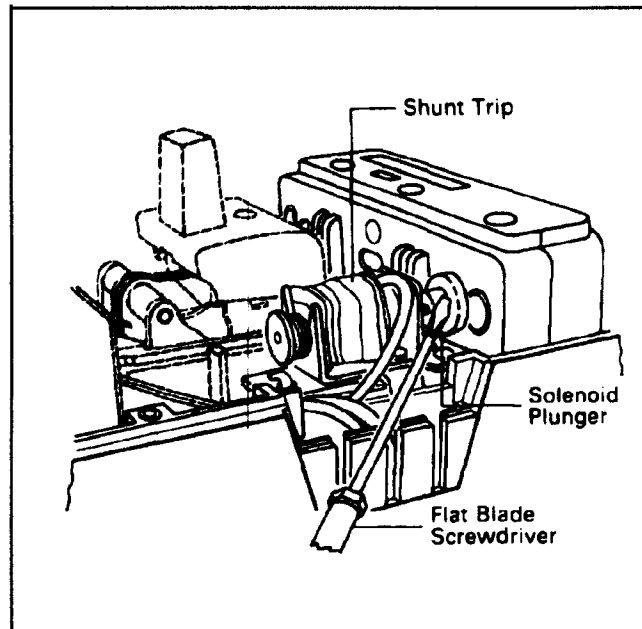

Fig. 2-5. Screwdriver Depressing Shunt Trip Solenoid Plunger
- b. Using a small flat-blade screwdriver, depress solenoid plunger (Fig. 2-5). Circuit breaker should move to TRIP position.